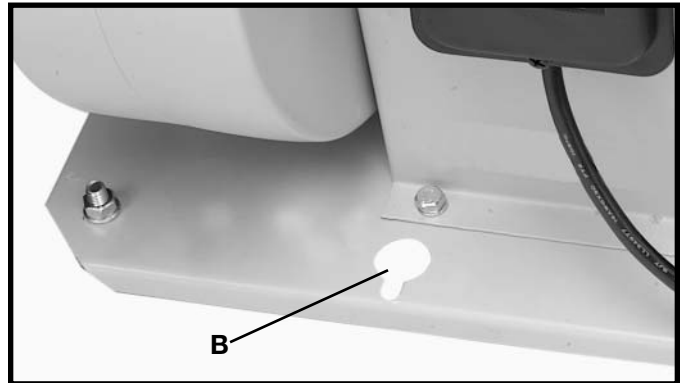

Fig. 30
2. In addition to the carrying handle, the machine features a storage mounting bracket (B) Fig. 30, with a hole for mounting the dust collector to a wall or wooden support when not in use.